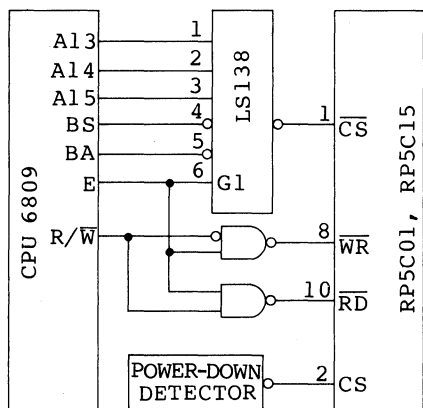
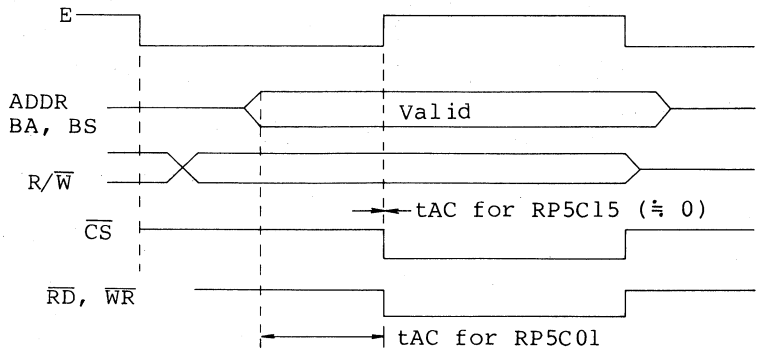

Fig. 5-6 Connection to 6809
Fig. 5-8 (Timing chart for arrangement shown in Fig. 5-6)
Fig. 5-6 shows the RP5C01 connected to a 6809 CPU. The following explanation applies when CS is high, i.e., when the supply voltage is normal. If a 6809 CPU is connected as shown in Fig. 5-6, the timing chart will be as shown in Fig. 5-8 below, if decoder and gate propagation delays between the CPU, the RP5C01 and the RP5C15 are ignored.
The following points arising from the timing shown in Fig. 5-8 should be noted about the connection to the 6809 CPU shown in Fig. 5-6:
- (b) With the RP5C15, $t_{AC} \cong 0$, and the arrangement shown in Fig. 5-6 cannot be used.